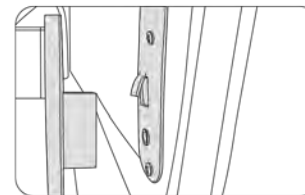

Figure 5
- Hook the front-end of the armrest on the steel frame and lock the buckle. (Figure 5)